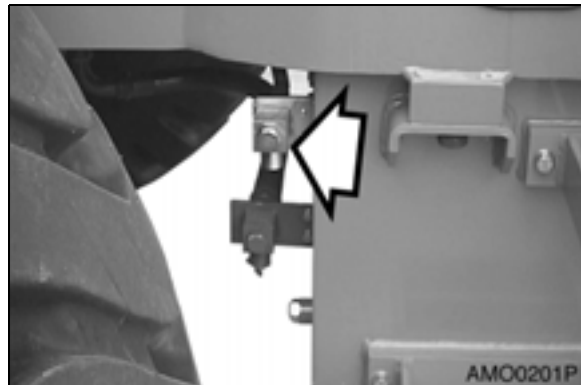

Figure 69
2. Place a container under the radiator and open the drain valve (Figure 69).